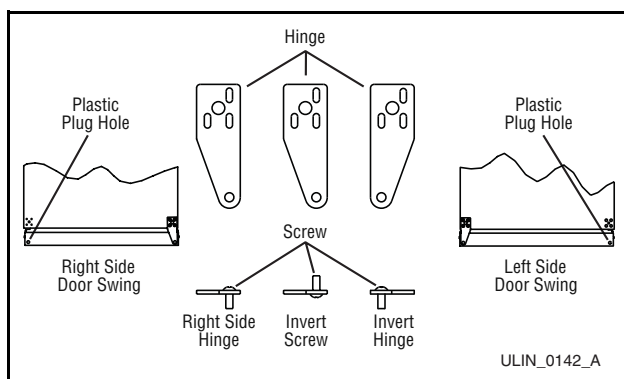

Figure 21
7. Remove plastic hole plug from door handle and relocate on opposite side (**Figure 21**).
8. Remove pivot screw from top hinge, invert screw and reinstall pivot screw in top hinge (**Figure 21**).